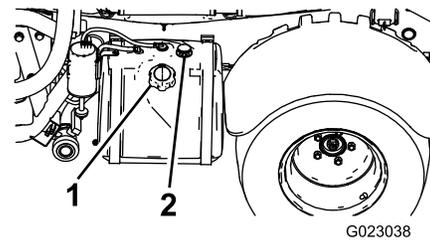

Figure 12
2. Clean the area around the fuel tank cap (Figure 12).